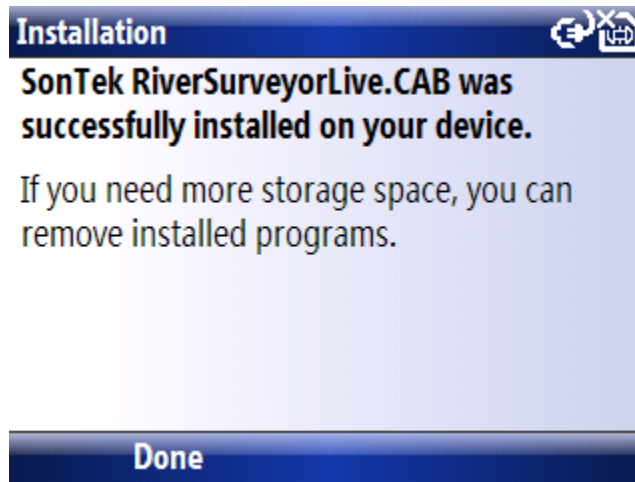

Figure 61. Software Confirmation Window
8. The RiverSurveyor Live application will automatically install on the Mobile device and automatically confirm the installation of the application (Figure 61).